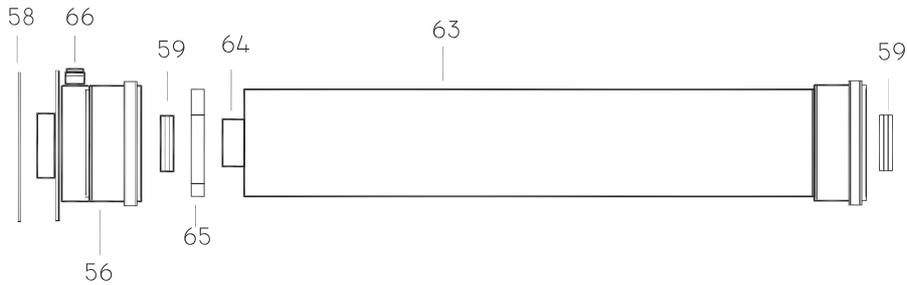

Fig. 19
If an extension must be shortened, this must be done from the straight end, and not from the widened or tapered end. To measure the pipe properly all components must be assembled and total length measured before cutting. The straight end of the extension connects to the boiler. The flue output pipe fits into the boiler header until it stops. The air intake pipe should be located approximately 2 mm. from the boiler header (fig. 19).
5.7.8 Extension kits are available to order for flue extension of up to 2.5 metres total length (Fig. 19). For further details see sect 5.5.9.